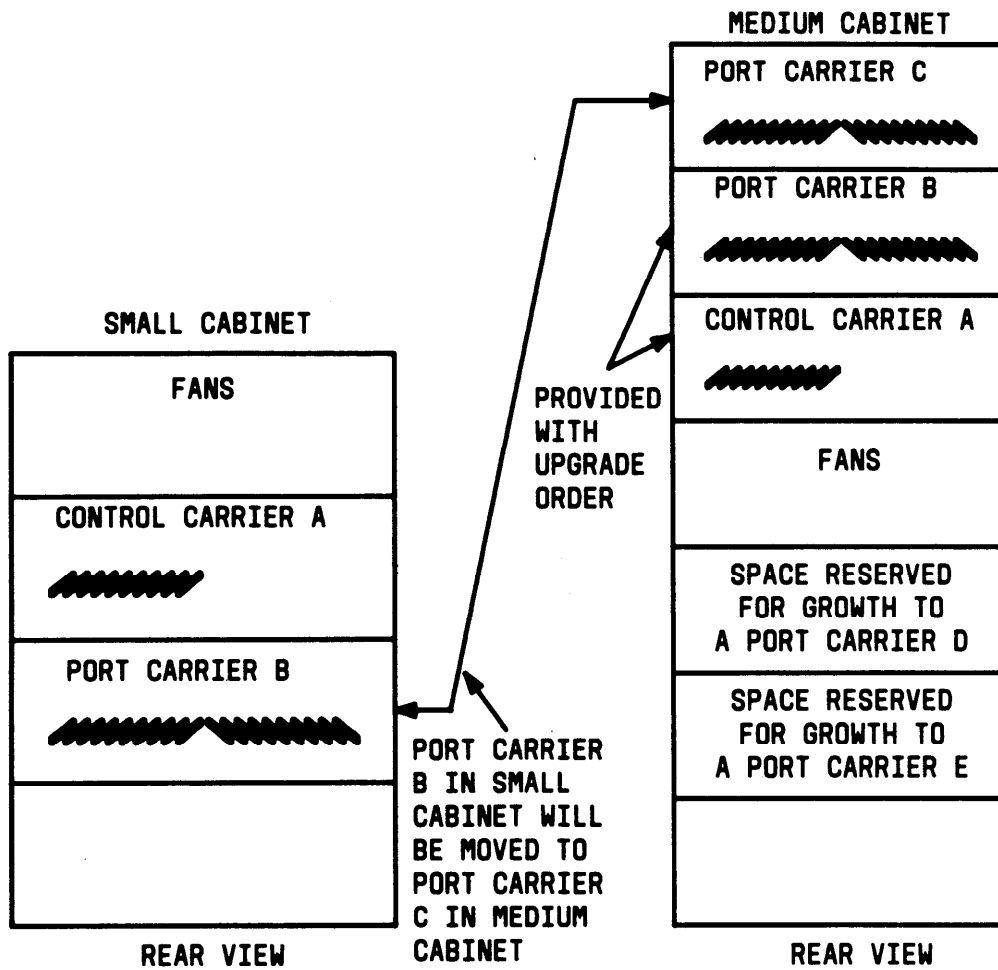

Figure 13. Small Cabinet and Medium Cabinet Carrier Layouts
- 2. Check to see that the connecting cables on the small cabinet have enough slack (length) to reach the carrier connectors of the medium cabinet (Figure 13). The port carrier and control carrier A of the small cabinet are at the bottom of the small cabinet. The port carrier and control carrier A of the medium cabinet are at the upper portion of the cabinet. If cables are not long enough, 25-pair extender cables will be required.**